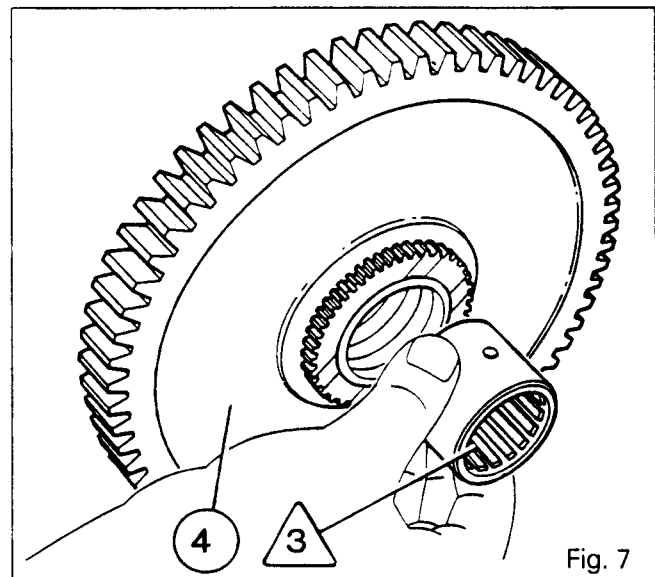

Fig. 7
31. Using a jet of compressed air, ensure that the channel of the shaft (13) is not obstructed. Lubricate bushes (19) and (20). Refit the gears (4) and (7), the coupler (5) with the hub (6), the bush /3\ with the toothed opening facing towards the rear of the tractor (Fig. 7).